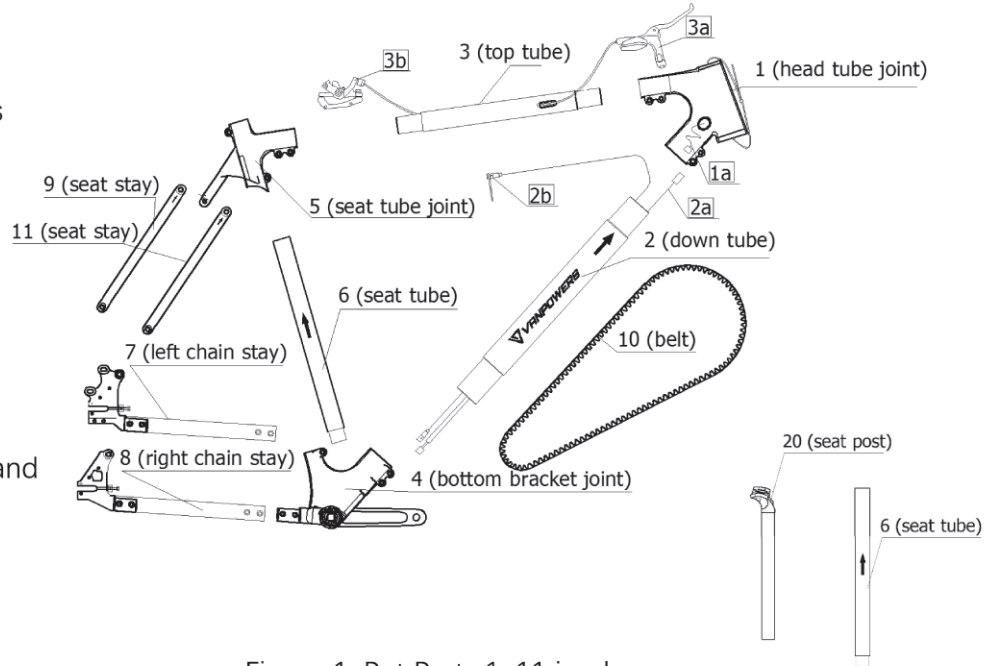

Figure 1: Put Parts 1–11 in place.
1. Find Parts 1–11 and place them as shown in Figure 1.